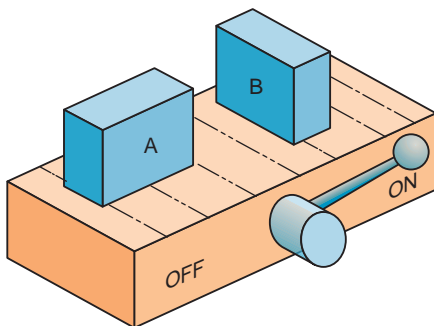

Figure 13-61 Which is safer and why? How can this setup be safer?
3. Which of the two equal sized, steel blocks shown in Fig. 13-61 is safest for grinding the top? Describe how to improve the setup of both.